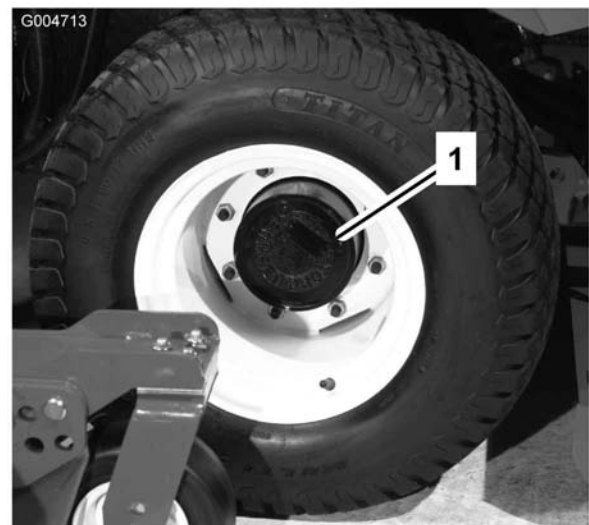

Figure 58
1. With the machine on a level surface, position the wheel so that the check/drain plug (Figure 58) is at the lowest position.